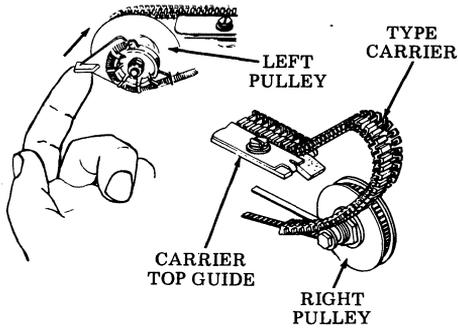

Fig. 12
- (d) Lift finger lever on left pulley and hold. Remove type carrier starting at right pulley as shown (Fig. 12). Release finger lever.